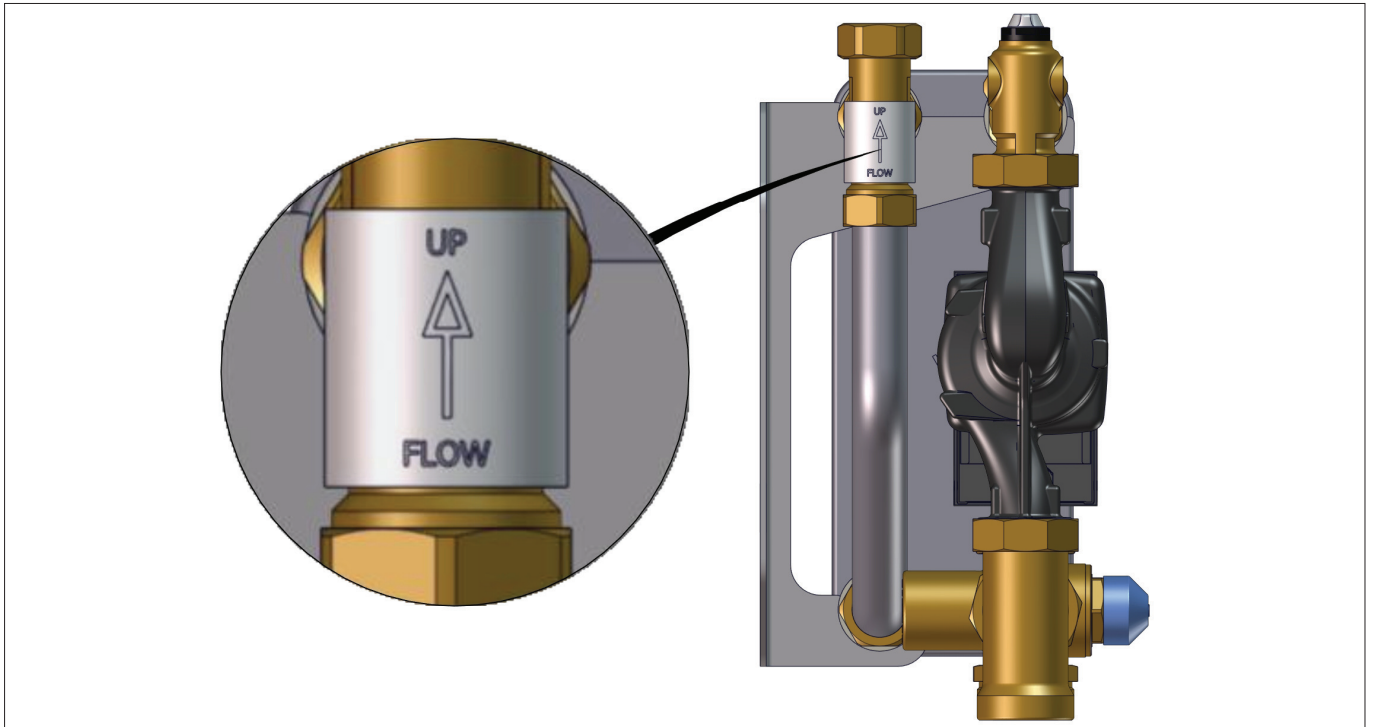

Fig. 10: Flow switch – installation position
1. Place the flow switch in the correct installation position using a gasket (Fig. 10).